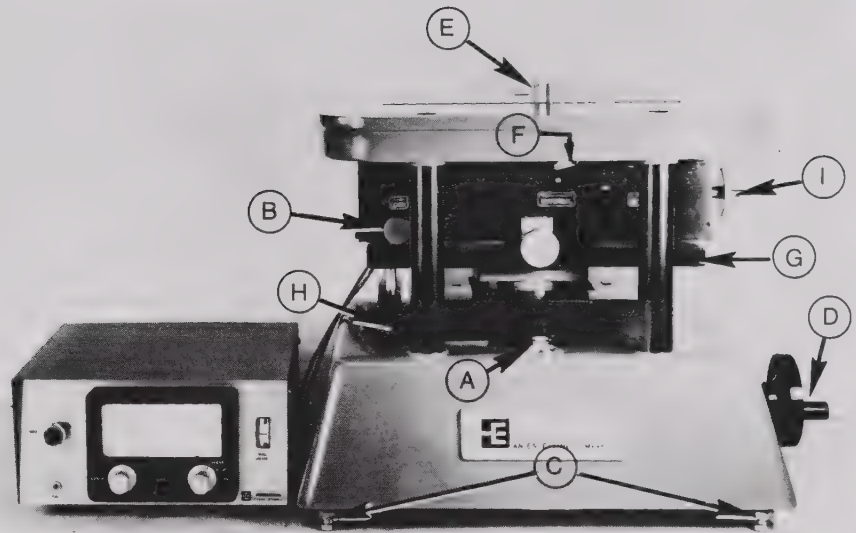

Figure 4. Comparator Operating Controls
Refer to Figure 4. It is important that the comparator be level to allow the gaging mechanism to float properly. A bull's eye bubble level (A) at the front of the gage base aids in determining approximate level. Activate the amplifier by turning Selector Knob to either " μ m" (micrometer) or "IN" (inch) position. Turn the Jaw Lock Knob (B) to "locked" position. Using an open end wrench, adjust the gage legs on front of unit (C) and one leg on rear until the needle on the Null Meter is zeroed (center of scale). Once this is accomplished, it is not necessary for the bubble to be exactly centered.
Turn the Jaw Lock Knob to "lock" position (drops into a detent) to prevent any movement of the reference jaw during setup. Put Reversing Lever ((F), Fig. 4) in the "internal" position. Turn the Centralizing Knob ((G), Fig. 4) so that the dot is at "12 o'clock" position, indicating that the jaws are central in the measuring table slot.
1. When mastering for I.D. sizes of approximately .500"/13 mm or larger, the gage block combination should be positioned horizontally on the measuring table, parallel with slot. Note that when mastering I.D. sizes from less than .500"/13 mm, gage block combination should be placed on end over gaging jaws. A pair of rails are provided to span the slot in the table. Follow steps 2 thru 9 as outlined below, except gently tap gage blocks to obtain a "zero" on the Null Meter and a MINIMUM reading on the amplifier meter. It is not necessary to use the Swivel Adjustment ((H), Fig. 4) if the gage blocks are tapped into "zero" position.
2. Turn Sensitivity Jaw Adjustment ((I), Fig. 4) so gaging jaws are visually SMALLER than the length of the gage blocks. Turn the Jaw Elevating Wheel so the gaging jaw contacts are aligned with the center of the end blocks.